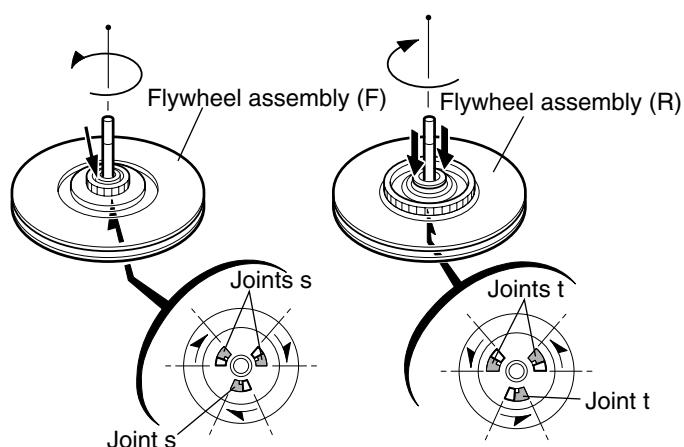

Fig.22
■ Disassembling the flywheel assembly (F) (See Fig.22 and 23)
1. Push and turn counterclockwise the spring holder (F) to release the three joints **s** on the bottom of the flywheel.
2. The spring holder (F), the TU spring and the friction gear play come off.
■ Disassembling the flywheel assembly (R) (See Fig.22 and 24)
1. Push and turn clockwise the spring holder (R) to release the three joints **t** on the bottom of the flywheel.
2. The spring holder (R), the FF spring and the friction gear FF come off.